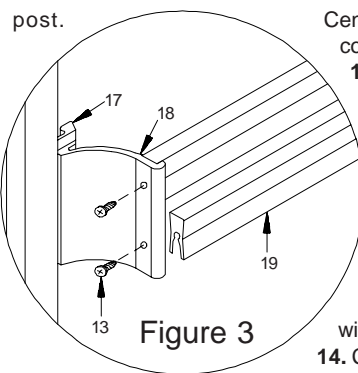

Figure 3
15. To set the slider pulls (17) and towel bar brackets (18), first remove any masking tape that was used to hold the vinyl in place. Now on the inside slider, push or gently tap the four pulls (17) into place in the 3" gaps left between the two ends of the glazing vinyl (9).
16. Repeat Step #13 on the outside slider making sure that the towel bar brackets (18) are on the outside. Assemble towel bars (19) to towel bar brackets with four #6 x $\frac{3}{8}$ " SMS screws (13). (See Figure 3.)